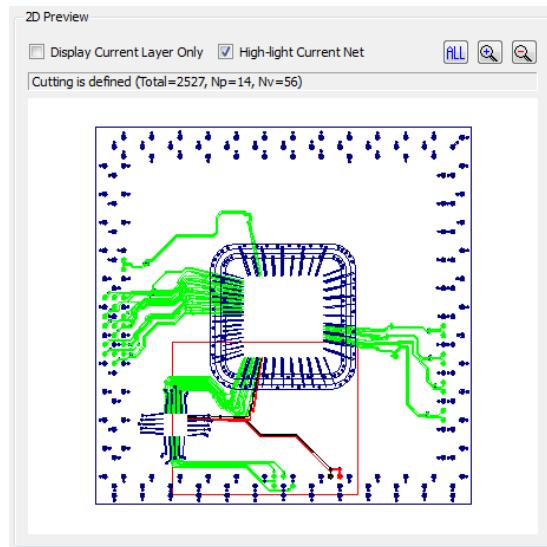

Fig. 3-7 Top View of the Structure
2. What is the red box shown in Fig. 3-7?